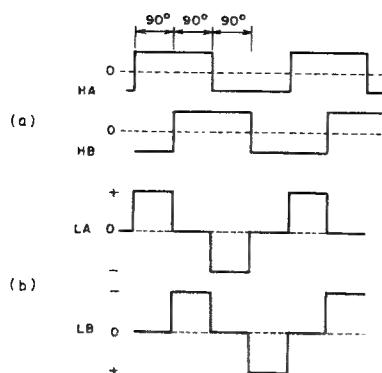

Fig. 9-1 Drive circuit waveforms
- This voltage is applied to the position signal combination circuit of PA2008, and the waveform is shaped as shown in Fig. 9-1 (a). The signals are further combined to produce a staircase signal such as that shown in Fig. 9-1 (b).